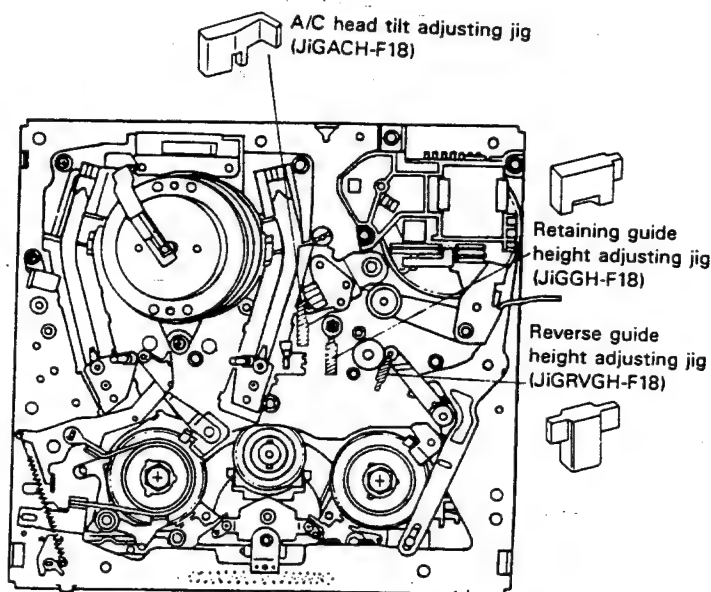

Figure 1-21.
8. Set the mechanism to the loading mode. Place the A/C head tilt adjusting jig on the main chassis as shown in Fig. 1-21. Slowly turn the tilt adjusting screw ⑥ with a Phillips screwdriver until there is no gap between the jig and the A/C head.